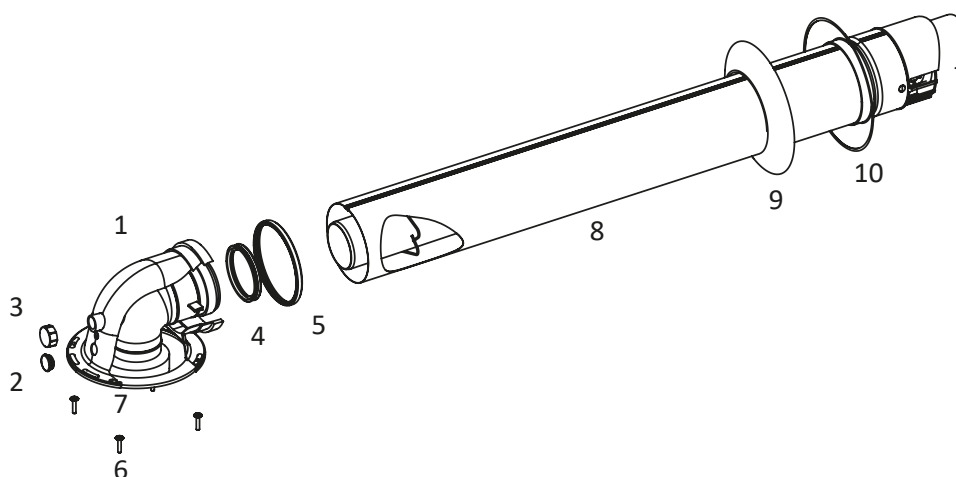

Figure 6
- The hermetic flue set is delivered in a carton box separate from the unit. The standard hermetic flue set (Ø60/100 or Ø80/125) consists of the following components (Figure 6).